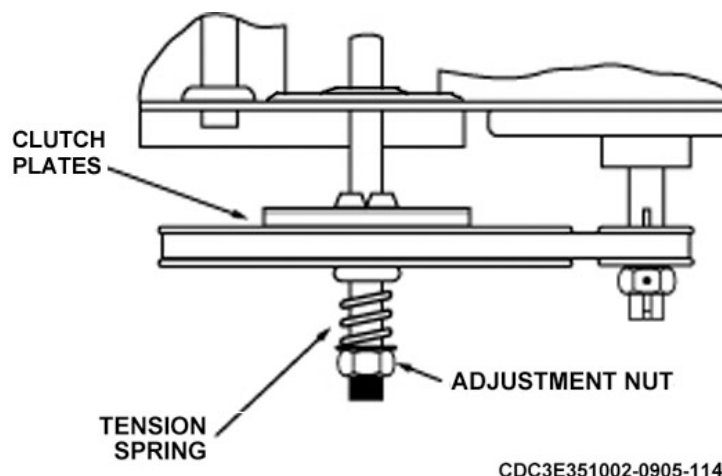

Figure 4-13. Clutch assembly.
4. Adjust the clutch so that it operates smoothly to open and close the door, but slips (disengages) if the door hits an obstacle. To adjust the clutch, as shown in figure 4-13, you tighten the adjusting nut to increase the spring tension that affects the pressure on the clutch plates.